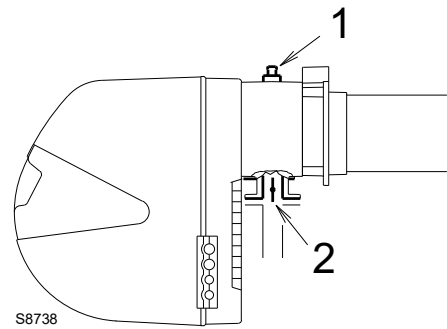

Fig. 18
Gas pressure measured at the test point 1)(Fig. 18), with:
Pressure loss at gas butterfly valve 2)(Fig. 18) with maximum opening: 90°.
- Subtract the combustion chamber pressure from the gas pressure measured at test point 1)(Fig. 18).
Gas pressure at test point 1)(Fig. 18) = 10.2 mbar
To know the required gas pressure at test point 1)(Fig. 18), set the maximum output required from the burner operation, then:
- Read, on the right (column 1) the socket pressure 1)(Fig. 18).
gas pressure at test point 1)(Fig. 18).